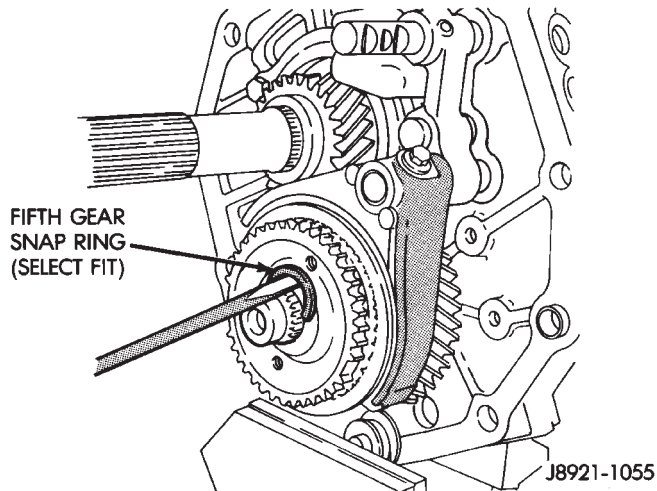

Fig. 52 Remove Fifth Gear Snap-ring
(2) Measure thrust clearance between countershaft fifth gear and thrust ring with feeler gauge. Clearance should be 0.10 to 0.40 mm (0.003 to 0.019 in.). If clearance exceeds limits, gear and/or ring will have to be replaced.
(3) Remove countershaft fifth gear retaining snap-ring (Fig. 52).